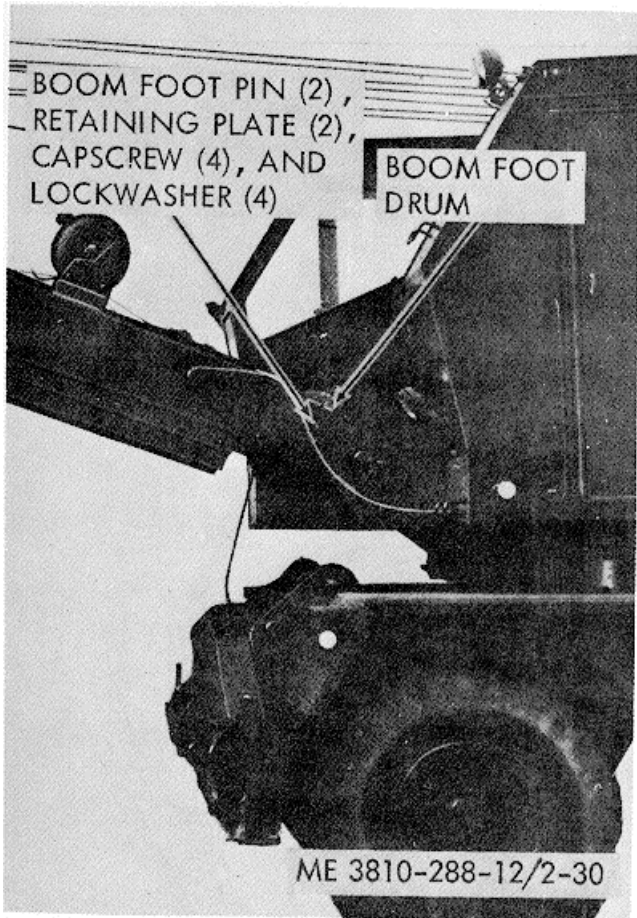

Figure 2-30. Shovel boom installation..
(5) Install the boom foot pin through the left boom foot lug. Using a suitable lifting device, support the boom foot drum in position, and in-stall the boom foot pin through the drum and the right boom foot lug. Install the boom foot pin retaining plates, capscrews, lockwashers, and nuts (fig. 2-30).
(6) Install the crowd chain around the front drum sprocket, boom foot drum sprocket, and over the chain tightener. Adjust the chain as described in paragraph 3-27.